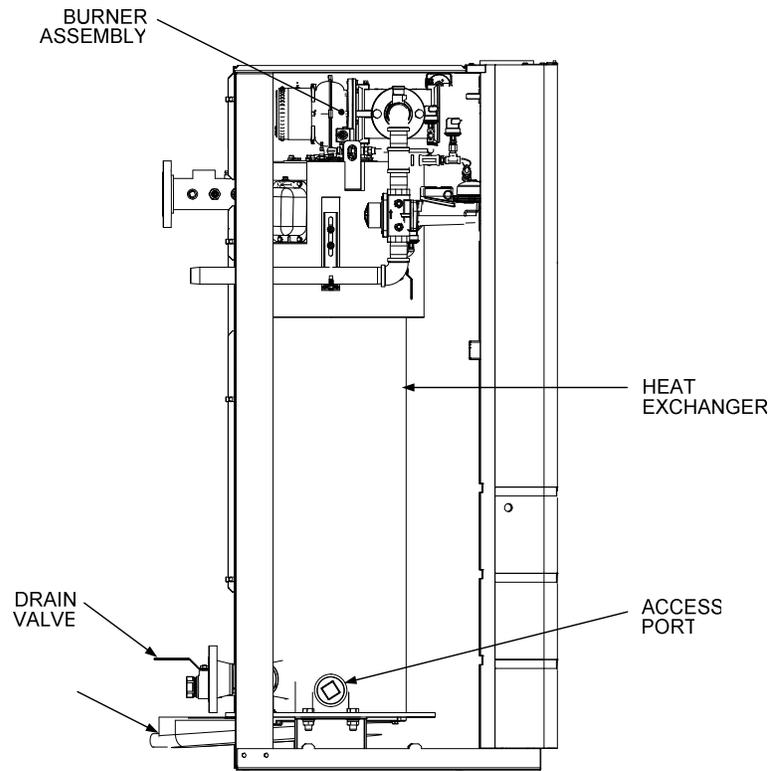

Figure 2. Benchmark 1.5LN - (Left Side View)
Benchmark 1.5LN Models contain a single heat exchanger as shown in Figure 2. Perform the waterside inspection as follows:
5. After the heat exchanger has been drained, remove the 2-1/2 inch access port plug on the left side of the heat exchanger as shown in Figure 2.